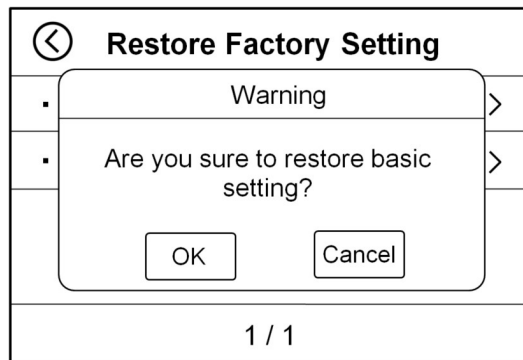

Figure 66
4) "Restore Basic Setting": Restores basic settings to factory settings. This function can be used if the customer modifies several basic settings of the machine (such as buzzer, baud rate, buzzer function, etc.) and now needs to be restored to the factory setting state. After using this function, you need to restart the machine. As shown in Figure 66 below.